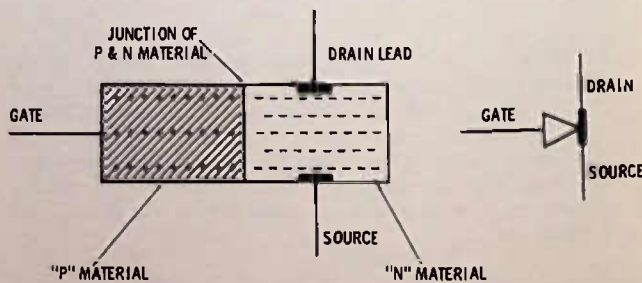

Fig. A-12.
3. A. The JFET (for junction field-effect transistor) is a sort of diode in cross section. In fact, there is diode action when you take an ohmmeter reading between the gate and either the source or drain. A JFET could be compared to a diode with a lead connected to either side of its n-type material and the p-type material connected as a gate (see Fig. A-12). A diode is two pieces of semiconductor material, one of which has been doped so as to have an oversupply of negative charges (electrons) called the "n" material and the other doped so as to have an excess of positive charges (holes) and called "p" material). This arrangement when the two are "junctioned" together allows current to flow in only one direction. In an FET, a negative voltage on the gate forces the negative charges out of the channel between the source and drain, reducing the number of current carriers and increasing the resistance from source to drain.